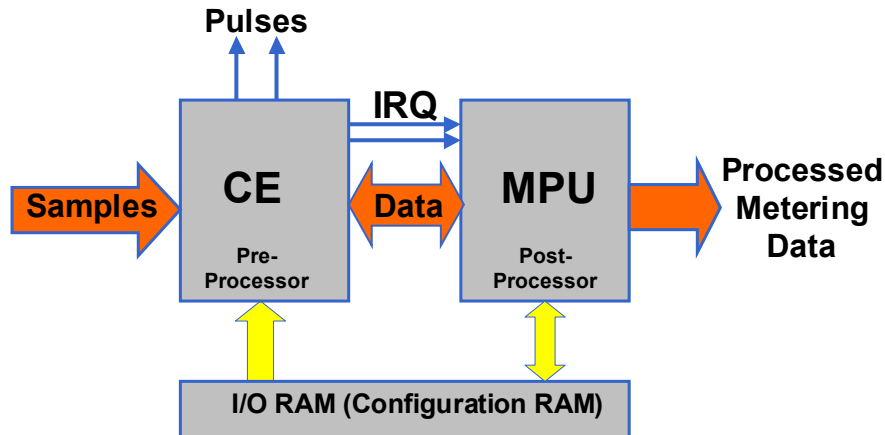

Figure 17: MPU/CE Data Flow
The data flow between CE and MPU is shown in Figure 17. In a typical application, the 32-bit compute engine (CE) sequentially processes the samples from the voltage inputs on pins IA, VA, and IB, performing calculations to measure active power (Wh), reactive power (VARh), A^2h , and V^2h for four-quadrant metering. These measurements are then accessed by the MPU, processed further and output using the peripheral devices available to the MPU.